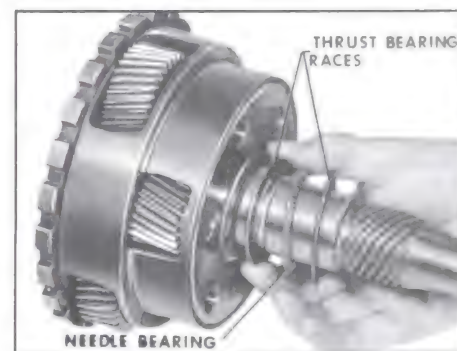

Figure 5-147
3. Remove needle bearing and two (2) bearing races from rear of planet carrier. See Figure 5-147.